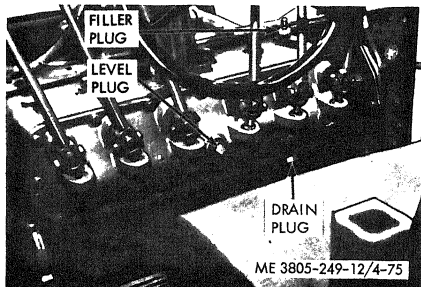

Figure 4-75. Power control housing.
a. Remove the filler plug and the drain plug (fig. 4-75) and allow the oil to drain. Clean and install the drain plug.